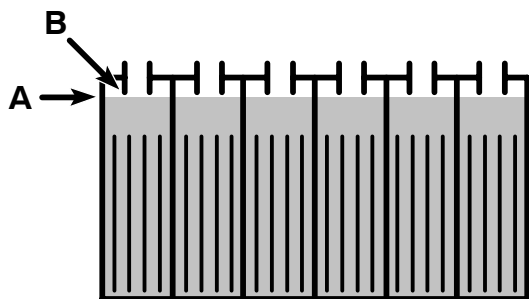

FIG. 40
- Check the electrolyte level (A) in each battery cell **after charging batteries**. The level should be approximately 1 cm from the bottom of the fill-port (B). Add distilled water if needed (Figure 40). **DO NOT OVERFILL.**